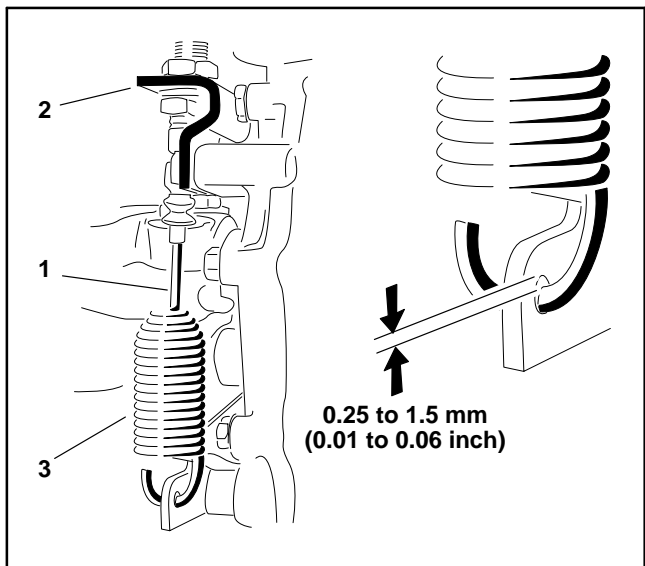

Figure 3
2. Loosen the jam nuts securing the differential–lock cable to the bracket on the transaxle (Fig. 3).